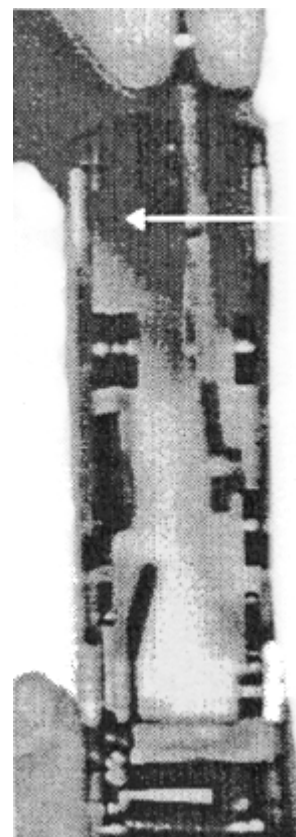

Figure 23
- Pull the *release lever* to the inside of the housing and bring out through the top of the housing. (Figure 23)